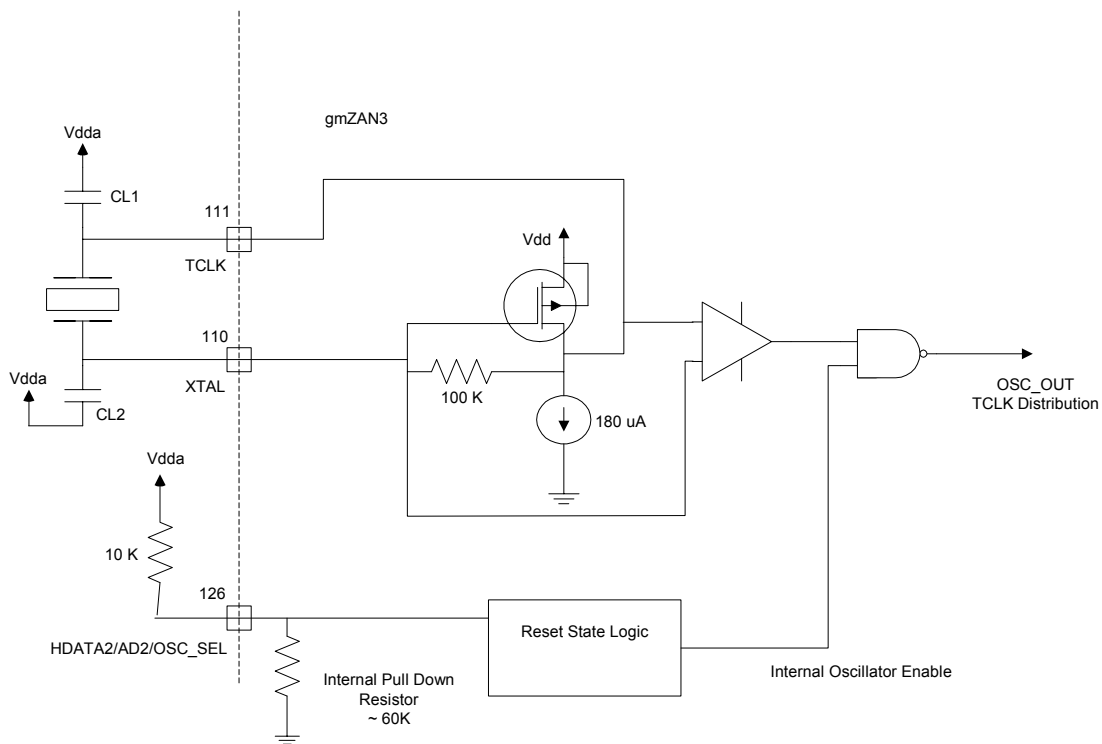
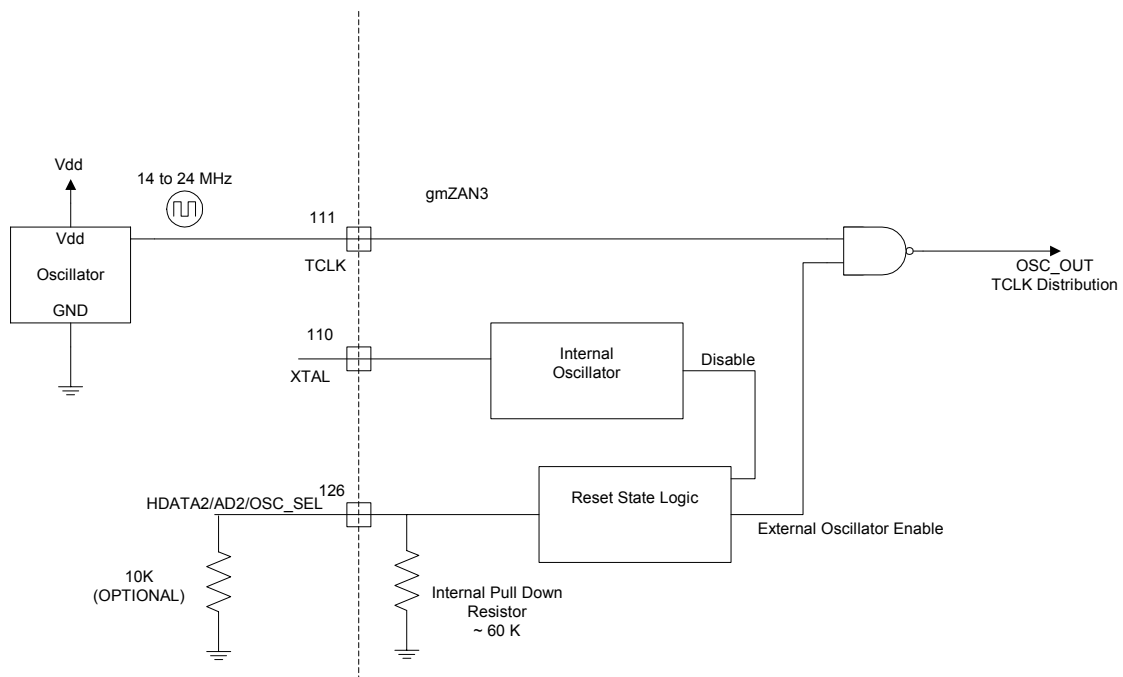

Figure 5. Using the Internal Oscillator with External Crystal
Figure 8. Using an External Single-ended Clock Oscillator
1. Crystal Input Clock (TCLK and XTAL). This is the input pair to an internal crystal oscillator and corresponding logic. A 14.318 MHz crystal is recommended. Other crystal frequencies may be used, but require custom programming. This is illustrated in Figure 5 below. This option is selected by connecting a 10K Ω pull-up to HDATA2/AD2/OSC_SEL. Alternatively a single-ended TTL/CMOS clock oscillator can be driven into the TCLK pin (leave XTAL and HDATA2/AD2/OSC_SEL as N/C in this case). This is illustrated in Figure 8 below. See also Table 14.
Another option for providing the reference clock is to use a single-ended external clock oscillator. When the gmZAN3 is in reset, the state of the HDATA2/AD2/OSC_SEL is sampled. If the pin is left unconnected (internal pull-down) then external oscillator mode is enabled. In this mode the internal oscillator circuit is disabled and the external oscillator signal that is connected to the TCLK pin is routed to an internal clock buffer. This is illustrated in Figure 8.